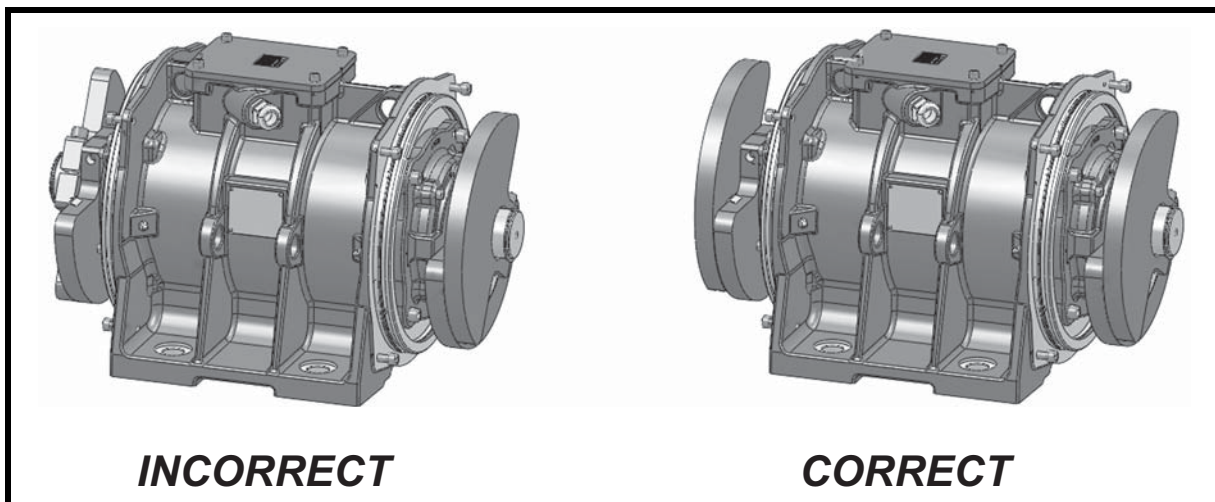

Figure 10. Setting Sets of Eccentric Weights to Mirror Images
7. Repeat steps 2 through 5 for second set of weights. Set both sets of weights to same setting number so they are mirror images, as shown in Figure 10.